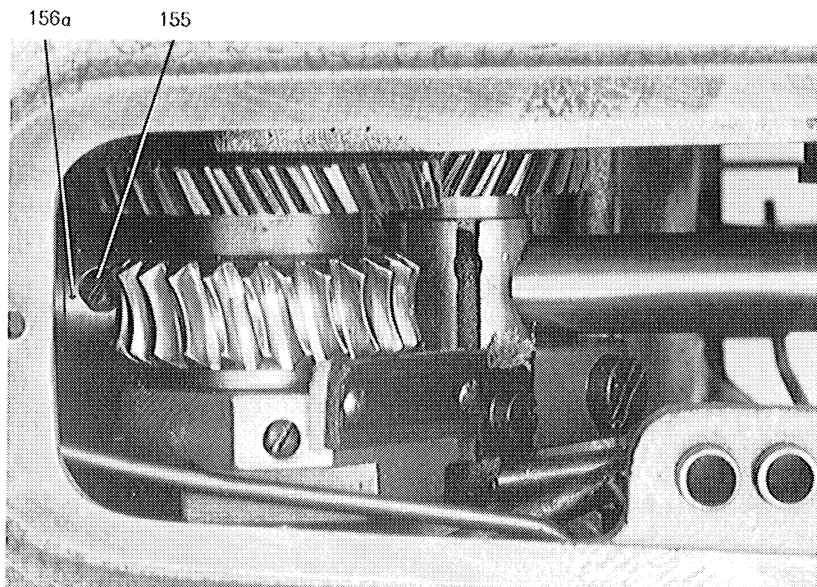

Fig. 43
3. Loosen the worm fastening screws 155 (fig. 43) of the worm 156a, hold the worm and, by turning the handwheel, turn the arm shaft accordingly.
3. Loosen the fastening screws 155 (fig. 43) of the worm 156a, hold the worm, and, by turning the handwheel, rotate the arm shaft accordingly.